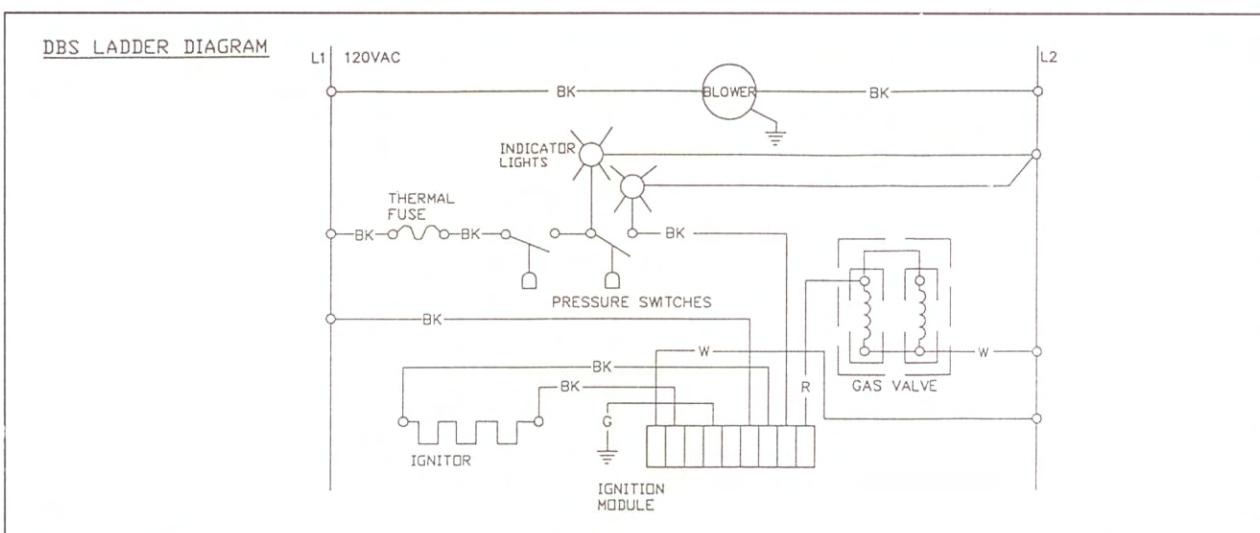

Figure 3.1.1
- **Starting Circuit (Figures 3.1.1 and 3.1.2)**